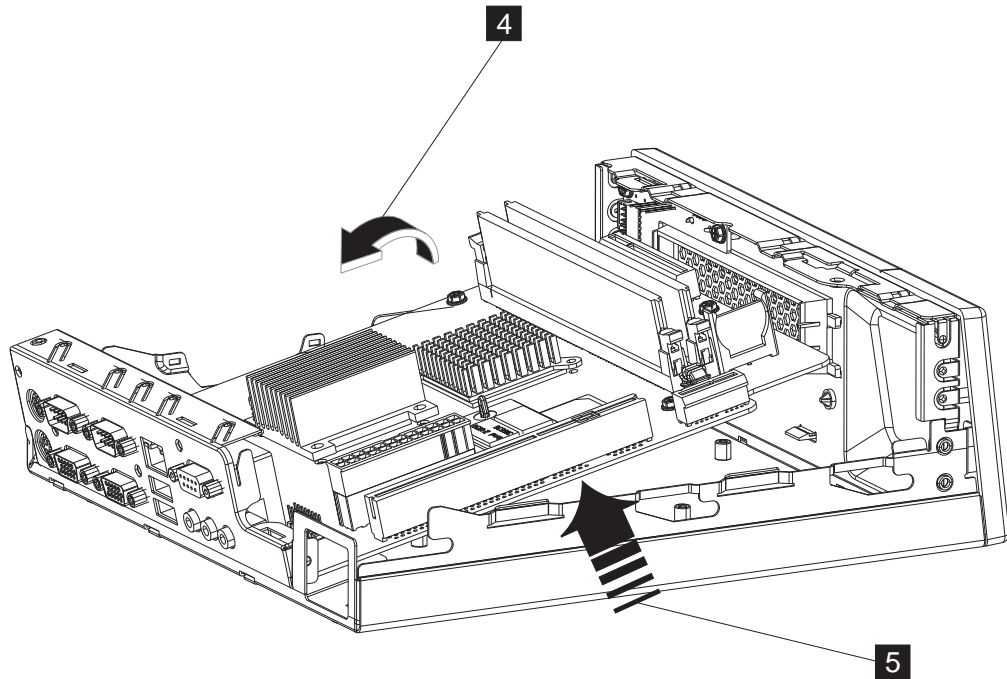

Figure 36. rotating and removing the system board
- Remove the system board by rotating it **4** , as shown in Figure 36; then lift up **5** .